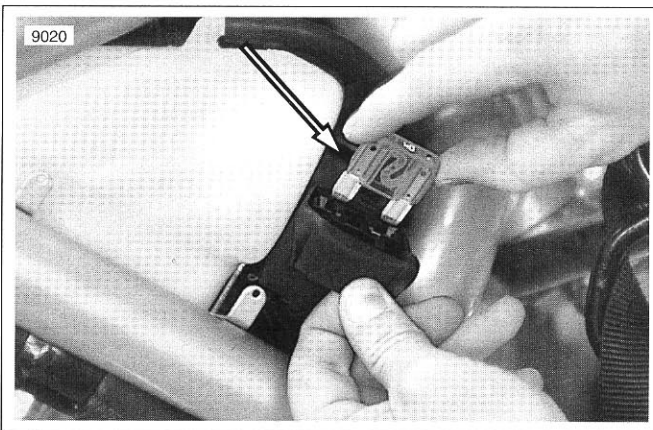

Figure 5-4. Maxi-fuse
2. See Figure 5-4. Locate and remove maxi-fuse.